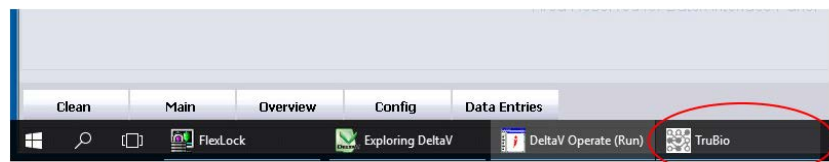

Figure 2.21. TruBio icon on Windows toolbar.
1. From any screen (Figure 2.21 shows the Main screen), click the TruBio icon (indicated with the arrow) on the Windows toolbar at the bottom of the screen.